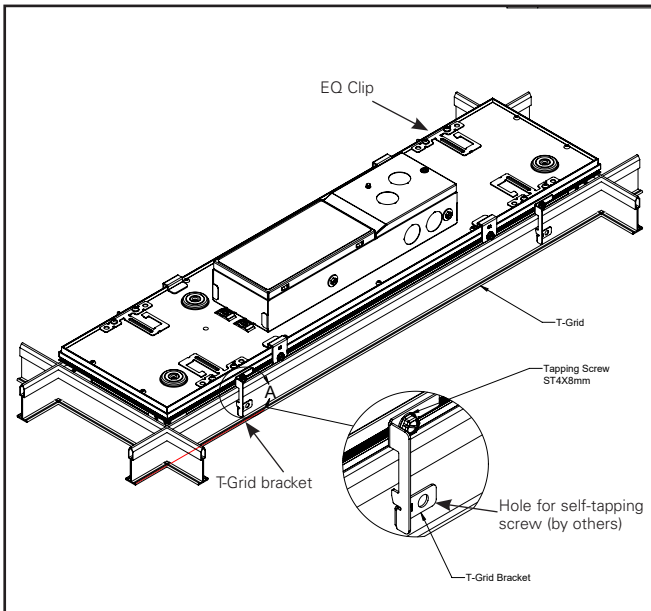

Figure 2.
7. Secure fixture to the grid using the T-grid bracket (see figure 2). Align the screw tabs of T-grid bracket on regress frame with T-grid and drive a self-tapping screw (by others) through the screw tab into the T-grid (see Figure 2). EQ clips are provided on the fixture for additional retention to the ceiling system.